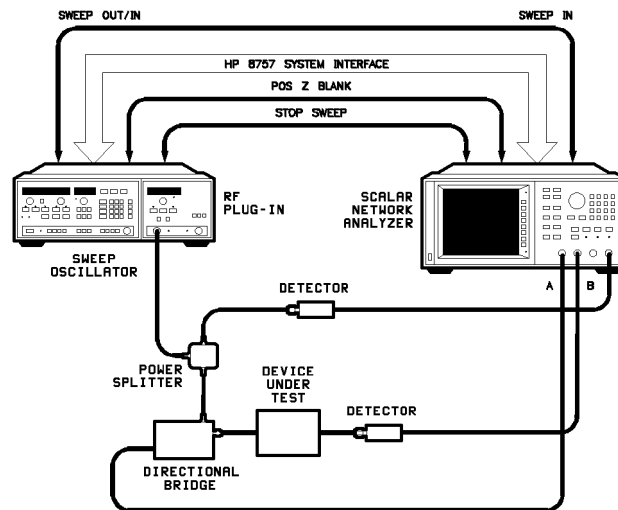

Figure 3-2. Typical Measurement Setup
Figure 3-2 shows a typical measurement setup. AC detection mode, the turn-on state of the 8757D analyzer, does not require any special setup to initiate a measurement. DC detection mode, however, requires that you press specific analyzer keys in the correct order.
- To make DC-mode measurements as shown in Figure 3-2, you must use an 85027 directional bridge capable of both AC and DC detection.
AC detection is the preferred method for the majority of measurements as it offers greater sensitivity. It also offers immunity to noise and drift with time and temperature. AC detection amplitude measurements require a modulation envelope. The envelope is provided through a 27.778 kHz square wave amplitude modulation of the RF test signal. Test set connections vary depending on the source. Figure 3-2 illustrates a typical measurement setup with an Agilent 8360 synthesized sweeper supplying the 27.778 kHz modulation.